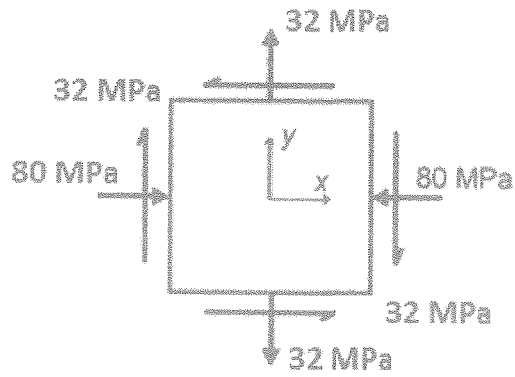

Figure Q5
- d) At a certain point in a strained material the values of normal stresses across two planes at right angle to each other are 80 MPa and 32 MPa, and there is a shear stress of 32 MPa clock wise on the plane carrying 80 MPa stress across the plane as shown in Fig. Q5.